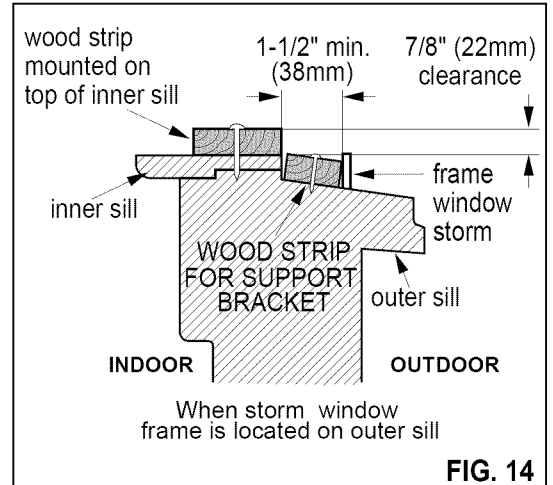

FIG. 14
- * If storm window presents interference, fasten a 2" (51mm) wide wood strip to the inner window sill across the full width of the sill. The wood strip should be thick enough to raise the height of the window sill so that unit can be installed without interference from the storm window frame, See FIG.14. Top of wood strip should be approximately 7/8" (22mm) higher than the storm window frame to help condensation to drain properly to the outside.
- * Install a second wood strip (approximately 6" (152mm) long by 1-1/2" (38mm) wide and same thickness as the first strip) in the center of the outer sill flush against the back of the inner sill. See FIG.14.